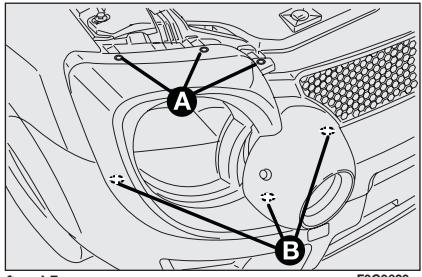

fig. 15
- loosen the three fastening screws **A**-**fig. 15** and remove the headlight cover;